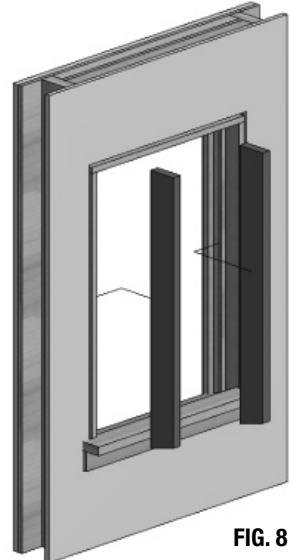

FIG. 8
- D) Remove existing balance system (cut cords if necessary, detach pulleys). (Fig. 8)